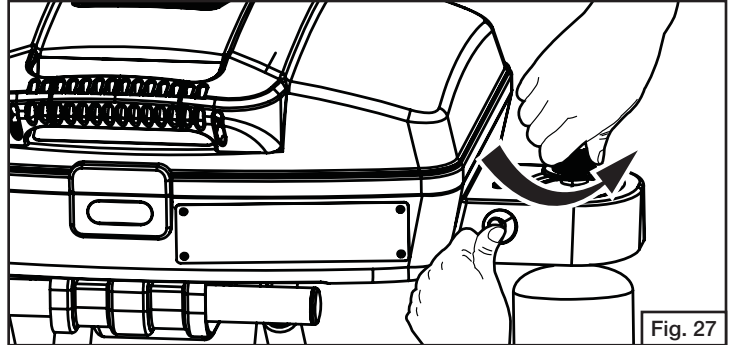

Fig. 27
2. Adjust flame with regulator valve. (Fig. 26 and Fig. 27)